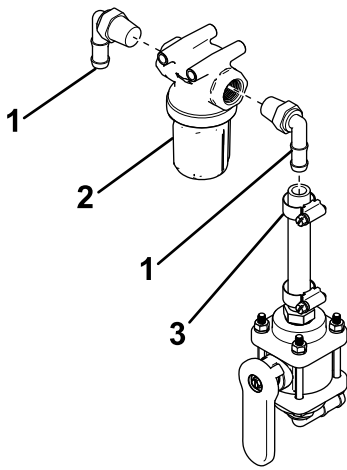

Figure 32
6. Install a 90° hose fitting on both sides of the filter (Figure 32).
7. Secure the 9.5 cm (4-3/4 inch) hose to the right 90° hose fitting with a hose clamp (Figure 32).